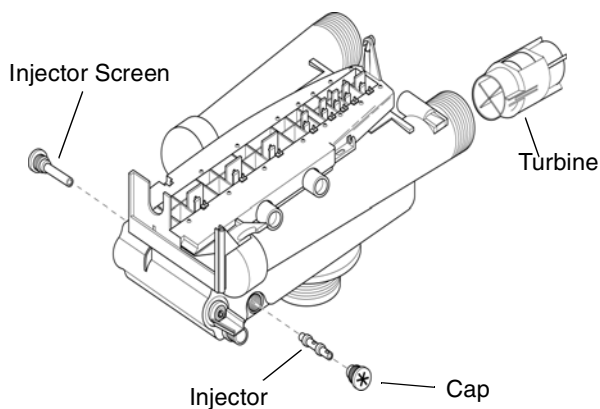

Figure 18
- Using a needle-nose pliers, remove the turbine from the outlet housing. Grasp one of the four vanes of the outer gland and pull straight out to remove turbine assembly from the outlet of the valve (Figure 18).